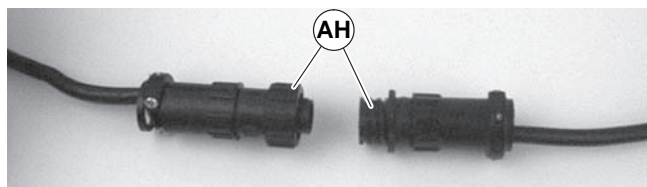

Figure 41
3. For DC variable speed motor, unplug motor cord at disconnect (Figure 41, item AH).